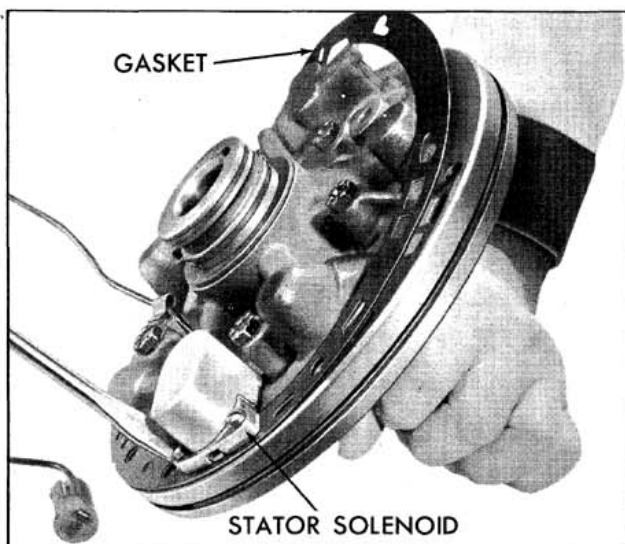

Fig. 6-101 Removing Stator Solenoid and Gasket
1. Remove stator solenoid attaching screws, stator solenoid and pump gasket. (Fig. 6-101)